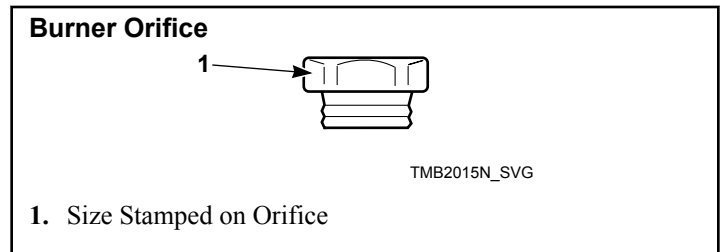

Figure 21
3. Install the new, correct burner orifice(s). Refer to *Figure 21* and *Table 15* . Torque each to 9 – 10 Nm.
4. Reinstall orifice holder assembly to gas valve, making certain burner orifice(s) are in line with burner tube opening. Refer to *Figure 21* .